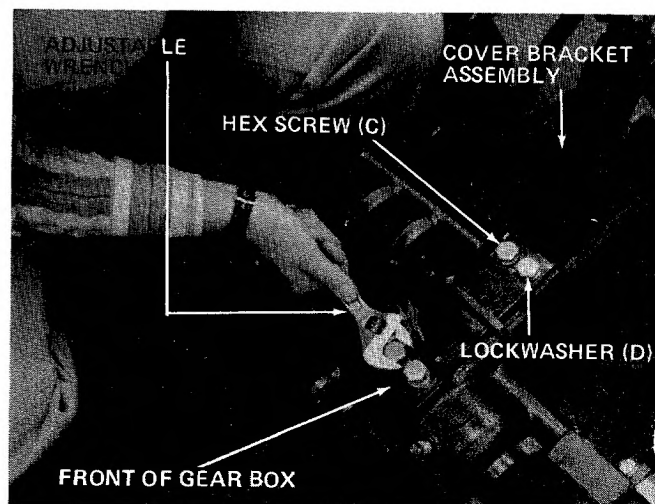

FIGURE 7
7. Install cover bracket assembly to gear box (as shown in figure 7) using four hex screws $1/2$ -13 x $1-1/4$ " (C) and $1/2$ " lockwashers (D). An adjustable wrench is required.